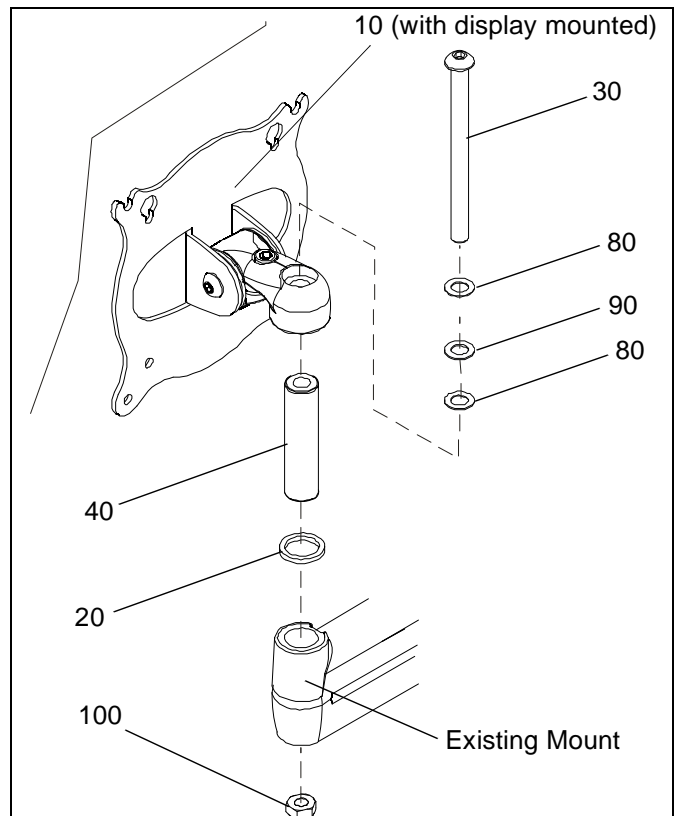

Figure 5: Install KSA-1006 with Display to Mount
1. Place one UHMW washer (20) into recessed seat in existing mount. (See Figure 5)
2. Insert pivot pin (40) through UHMW washer (20) and into existing mount. (See Figure 5)
3. Assemble two FW (80) to BHCS (30). (See Figure 5)
4. Align mounting hole in extreme pitch mechanism (10) with mounting hole in mount. (See Figure 5)
5. Insert LN (100) up into bottom mounting hole in mount. (See Figure 5)
6. Insert BHCS (30) with washers (80 and 90) down through pivot pin (40) in mount and thread into LN (100). (See Figure 5)